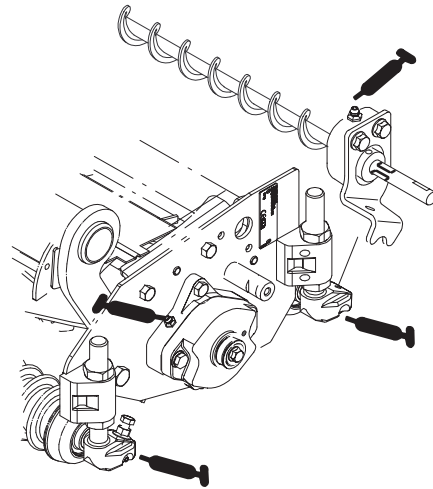

Figure 15
34. Lubricate grease fittings on roller brush bearing housings and remainder of cutting unit with No. 2 General Purpose Lithium Base Grease (Fig. 15).